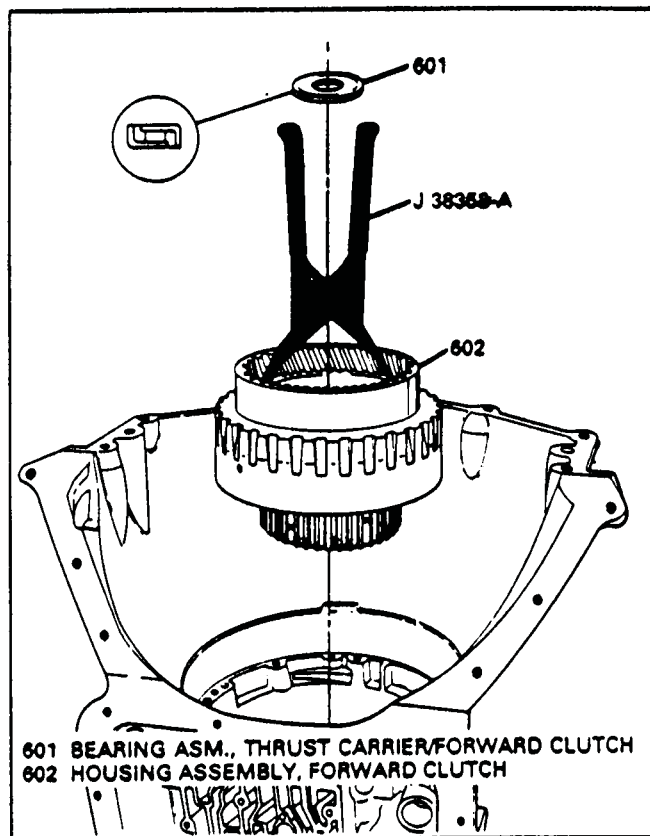

Figure 50
4. Remove the forward clutch housing assembly, using J-38358-A, as shown in Figure 50.
5. Remove the thrust bearing from the top of the forward clutch housing. (See Figure 50).